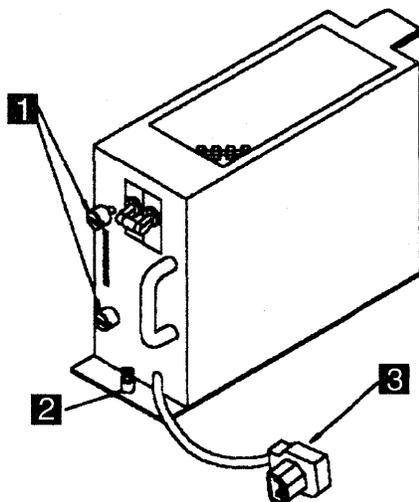

Figure 4-123. Channel Board Power Supply
Using Figure 4-123, remove the power supplies as follows:
12. The power supplies for channel board 01L-A1 are located at 01K. The power supplies for channel board 02E-A1 are located at 02D. Using the Figure 4-123 on page 4-132, re-install the power supplies as follows: